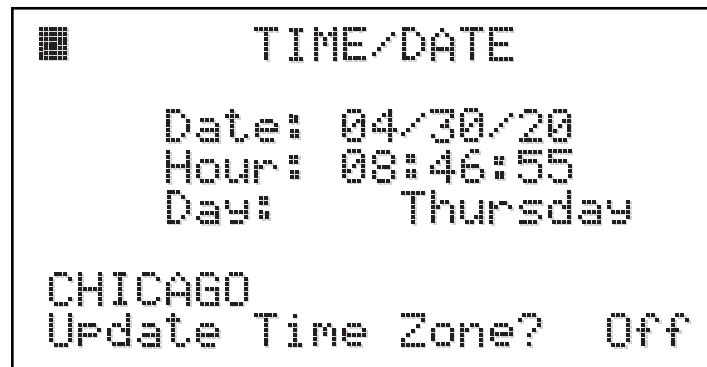

Figure 14
4.3.3.1 Time Settings (Figure 14)